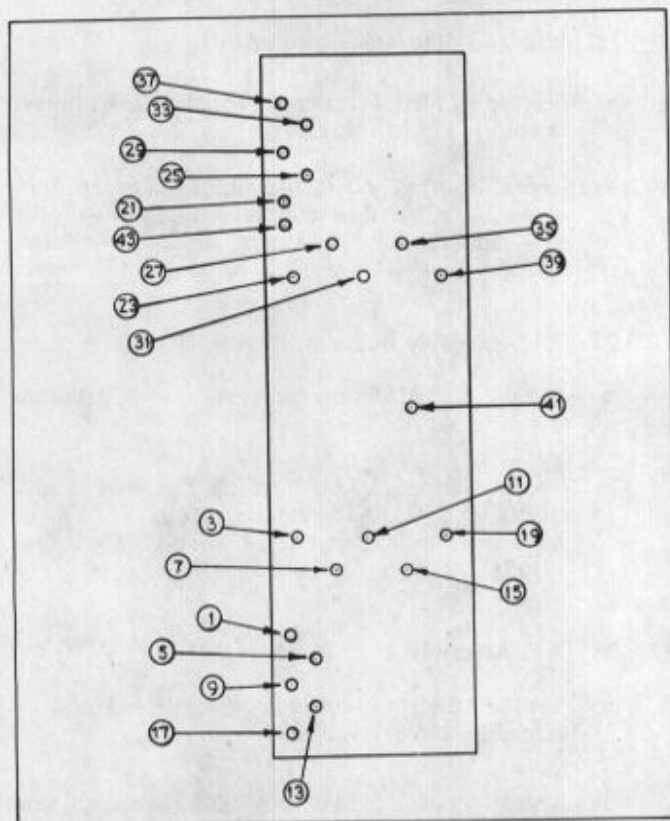

Figure 2-15. Trimmer Locations, 1 MHz and 10 MHz Decade Switching Programming Assemblies, A4A and A4B
- Disconnect the center conductor of the cable at A4B-41 (See Figure 2-15) and solder a BNC test cable center conductor to A4B-41 and shield to A4B-42. Connect the BNC connector to the RF voltmeter (with 50 ohm termination).